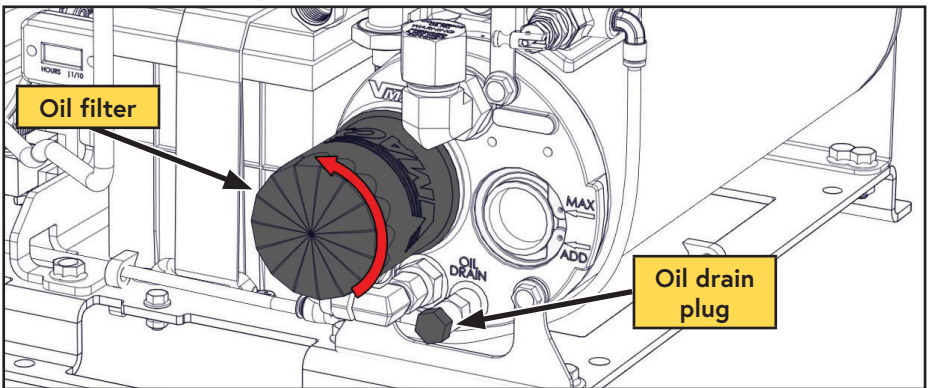

Figure 33 — Compressor oil filter
- Remove the oil drain plug and drain the oil into a container with a capacity of at least 4 L (1 USG) (Figure 33).
- Remove the oil filter (Figure 33 on page 53).